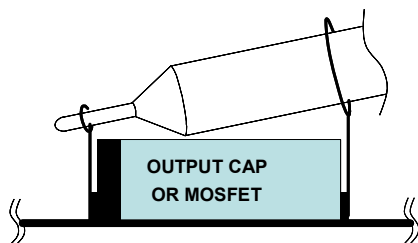

FIGURE 2. PROPER PROBE SETUP TO MEASURE OUTPUT RIPPLE AND PHASE NODE RINGING
5. Use an oscilloscope to observe output voltage ripple and phase node ringing. For accurate measurement, please refer to Figure 2 for proper test setup.